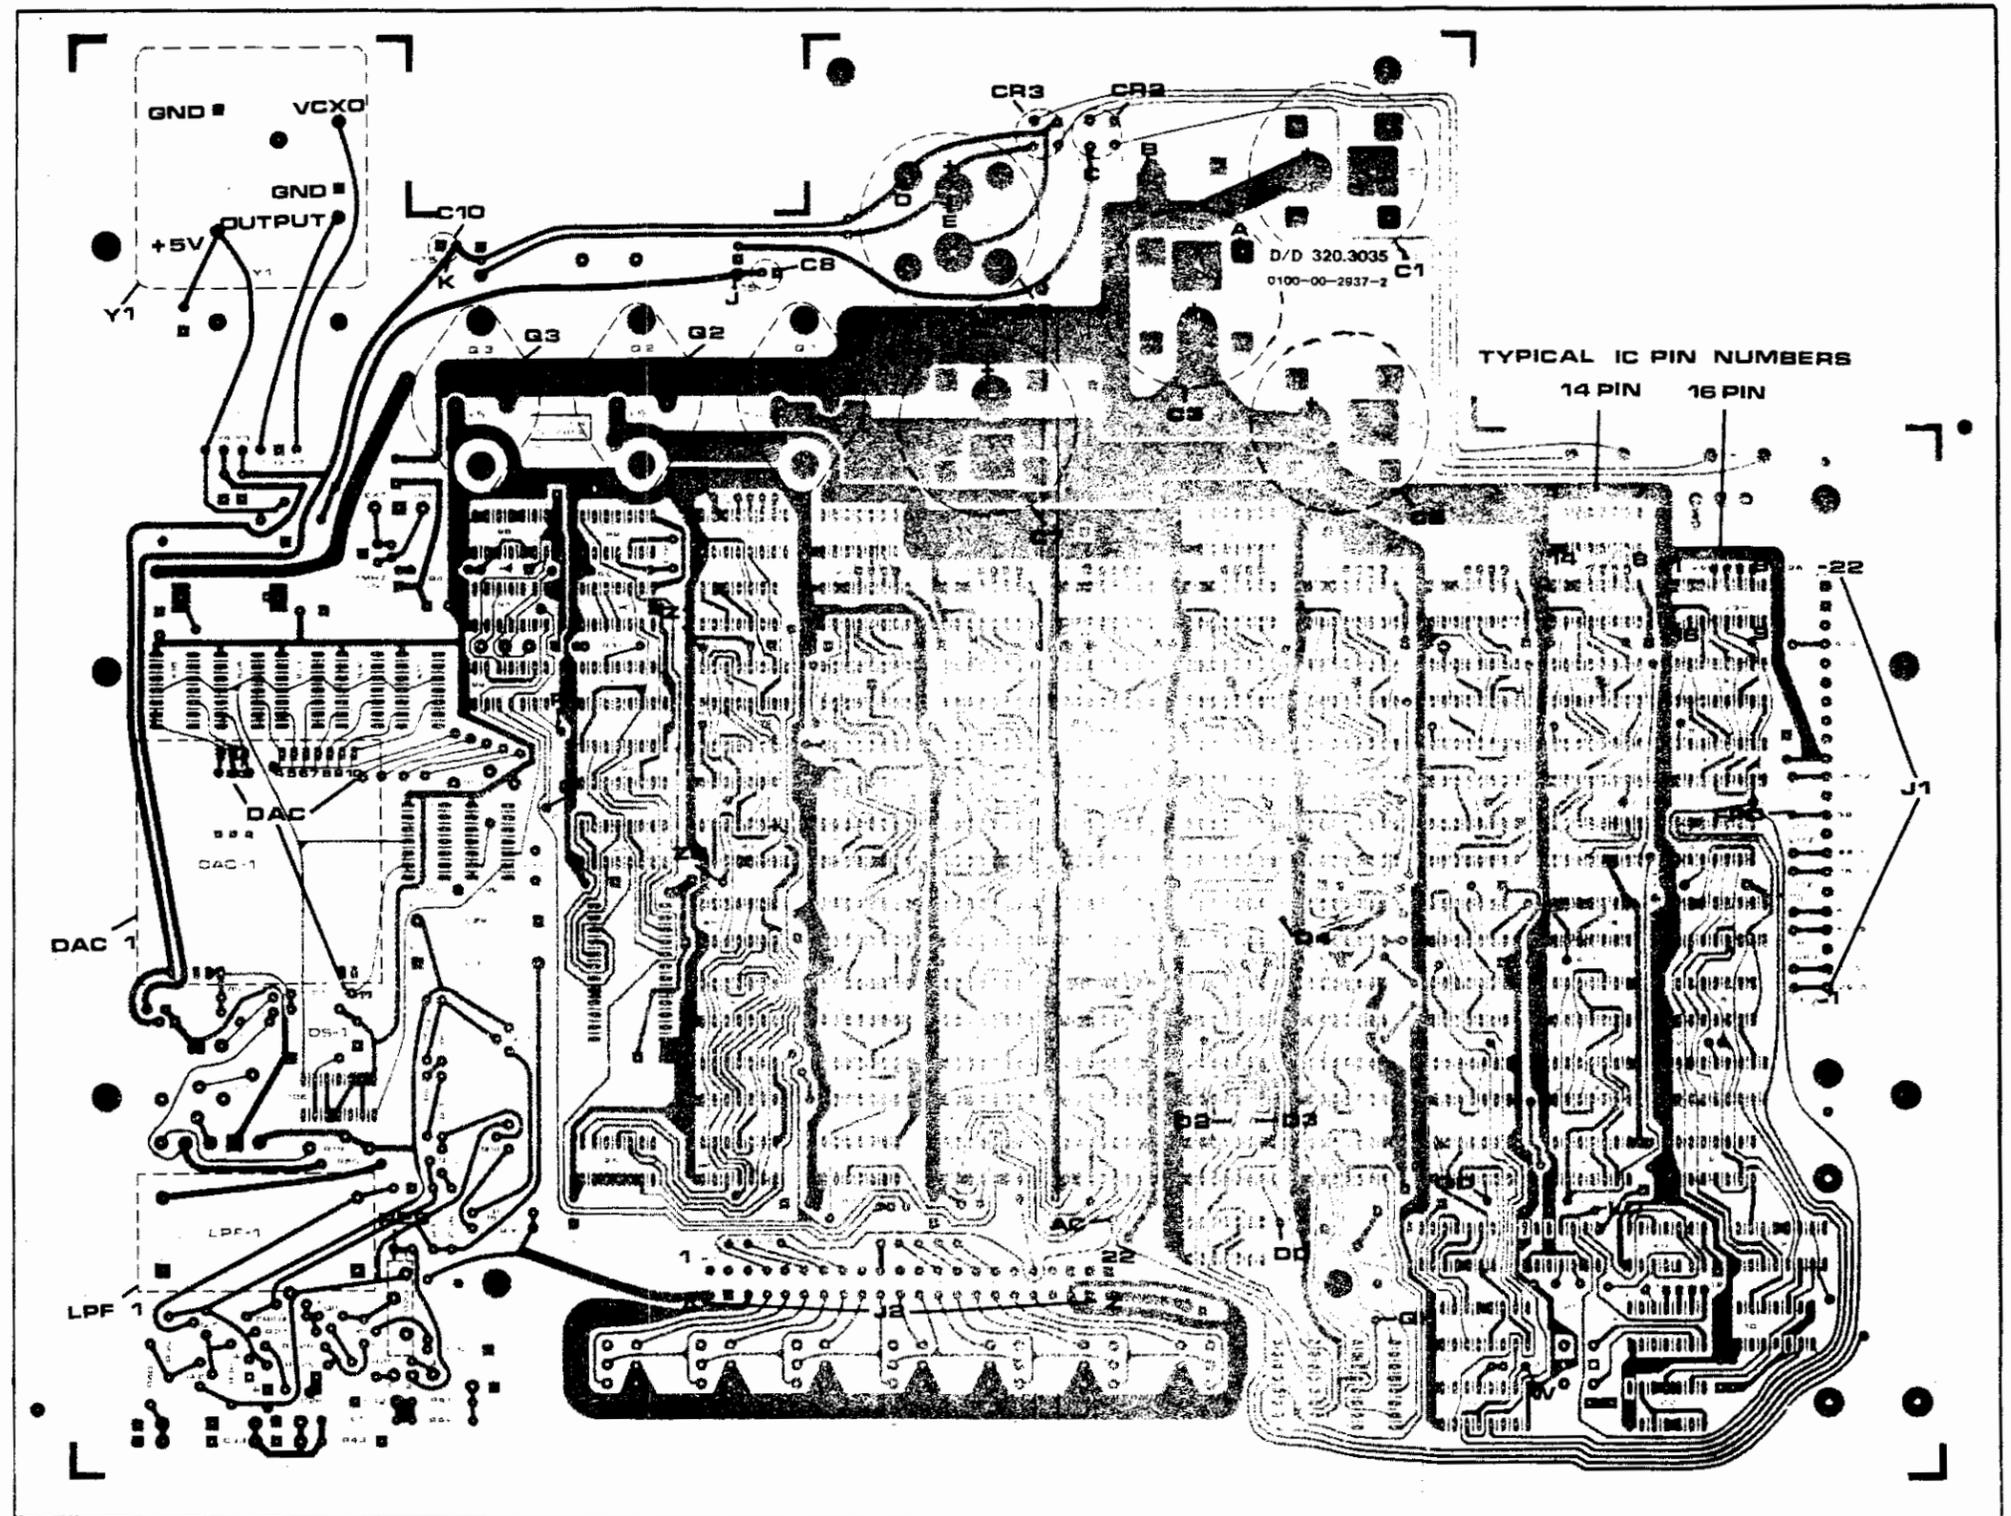

Figure 6-1. Motherboard Assembly A1 — Bottom Side
Equipment required for this test: VOM, variac, and oscilloscope. Refer to section 7, power supply drawings for component locations and schematic. Test points are shown in figure 6-1.
3. Connect negative probe of meter to ground bus at point A, figure 6-1. Connect positive probe to point B and increase setting of variac until a reading of + 2.0 Vdc is reached. (TS-1)
Equipment required for this test: oscilloscope. Refer to section 8, main board drawings for component locations and schematic. Test point DC is shown in figure 6-1.
Equipment required: Oscilloscope. Refer to main board Assembly in section 8 and figure 6-1 for D/A converter location and test points.
Equipment Required: Frequency counter. Refer to figure 6-1 for component locations. S1 through S10 are the ten front panel frequency switches numbered right to left.
Equipment required: Frequency counter, oscilloscope, and programming unit. A bounceless LOAD pulse is required. In the procedure below, this programming unit is referred to as PGM. Refer to section 3 for detailed remote loading instructions. All lines are assumed to be logical "0" unless specified. Refer to figure 6-1 for component locations.
Set up the Test Conditions, connect the appropriate equipment to the Test Point (shown in figure 6-1) and verify results in each Observation row. If the Observation description is verified, continue downward to the next Observation, changing Test Conditions and Test Point as necessary.